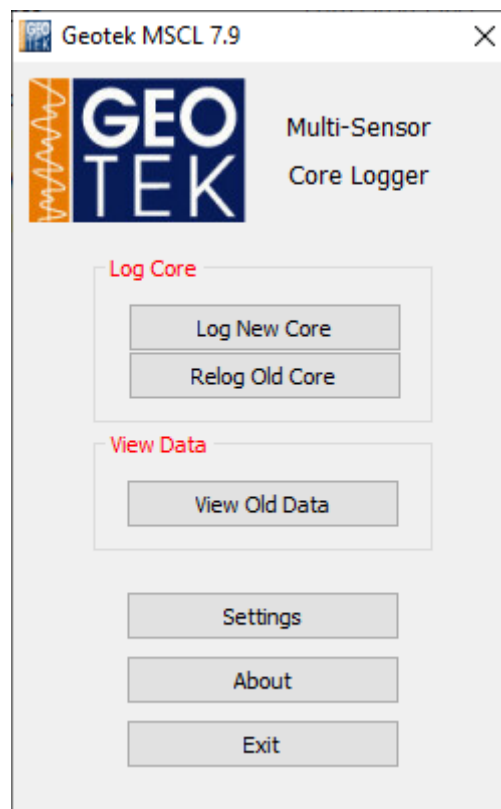

Figure 4.2: MSCL-S software main menu
- Open the software and the main menu will be displayed, Figure 4.2: